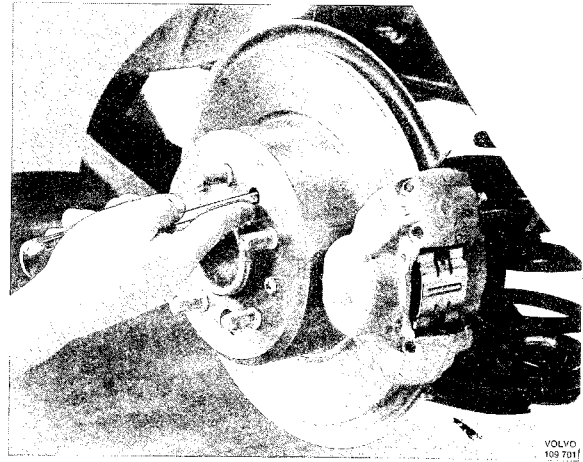

Fig. 5-83. Parking brake adjustment
4. Align the brake drum so that its hole is in front of the adjustment screw and adjust the shoes by turning the adjustment wheel with a screwdriver (Fig. 5-83). Stop turning the wheel when the drum just about can be turned around, then turn back 4-5 teeth. Turn the brake drum and check that the brake shoes do not drag. If they do, turn back another 2-3 teeth.
13. Align the brake drum so its hole is in front of the adjustment screw and adjust the shoes by turning the adjustment wheel with a screwdriver (Fig. 5-83). Stop turning when the drum just about can be turned around, then turn back 4–5 teeth. Turn the brake drum and check that the brake shoes do not drag. If they do, turn back another 2–3 teeth.
22. Align the brake drum so that its hole is in front of the adjustment screw and adjust the shoes by turning the adjustment wheel with a screwdriver (Fig. 5-83). Stop turning when the drum just about can be turned around, then turn back 4–5 teeth. Turn the brake drum and check that the brake shoes do not drag. If they do, turn back another 2–3 teeth.